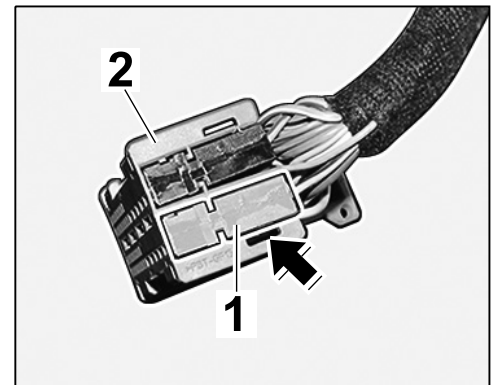

Figure 35
- 4.6.5 Press down the locking mechanism ⇒ *Figure 35-arrow-* and slide the grey plug socket ⇒ *Figure 35-1-* out of the plug carrier ⇒ *Figure 35-2-*.